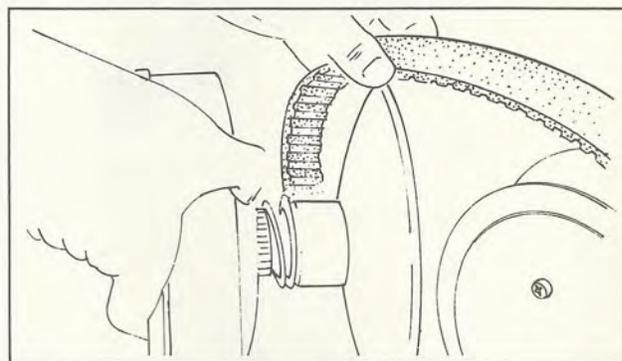

Fig. 2-11
- (5) Remove the drive belt. (Fig. 2-11)